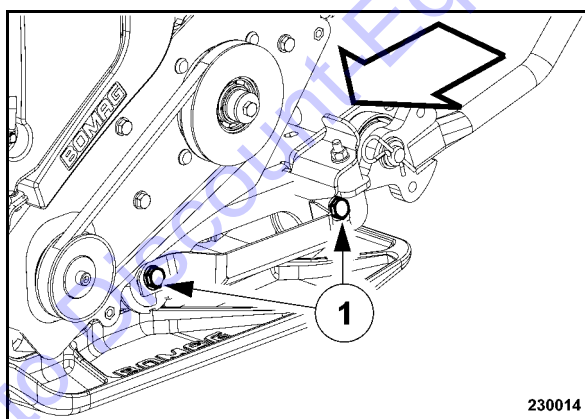

Fig. 57
- Slightly loosen two fastening screws (1) (Fig. 57) on both sides of the engine carrier.